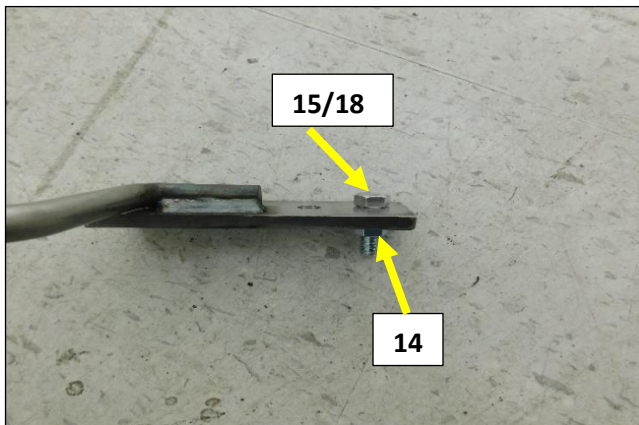

Figure 10
1. Install the 5/16-18 x 1 bolt (18) with 5/16 flat washer (15) and 5/16-18 nut (14) into the outer hole in the frame hanger mounting plate. **Fig. 10**